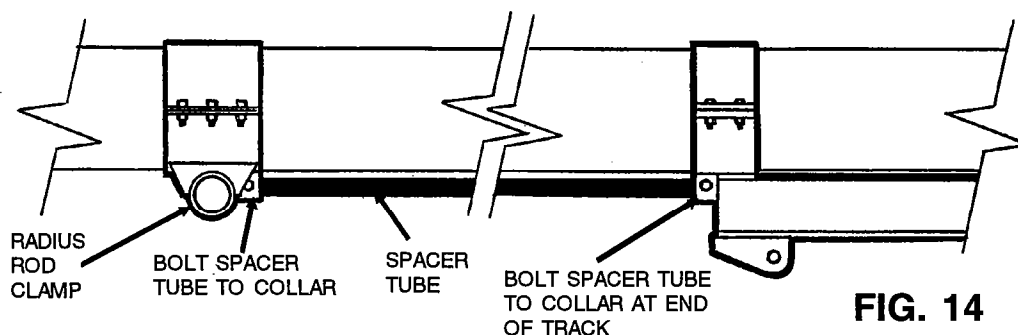

FIG. 14
- Step 2. Fasten spacer tube to collar at lower end of track with one 5/16" x 1 3/4" long (grade 5) hex head capscrew and nylon locknut. See Fig. 14